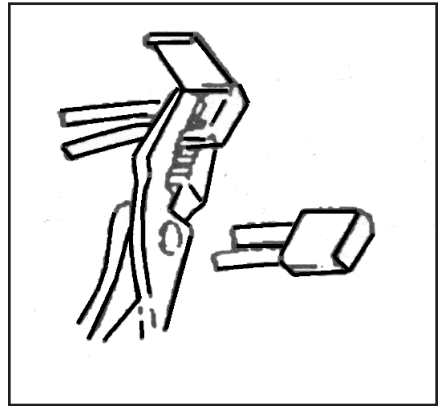

Figure 4
A. CLUTCH APPLICATION: Connect either **Violet Wire** of the **DISENGAGEMENT SWITCH HARNESS** to the **Violet Wire** in the **CRUISE CONTROL MAIN WIRING HARNESS**, as shown in **FIGURE 4**. Connect the other **Violet Wire** to the ground side of the vehicle brake switch, as shown in **FIGURE 4A**.
B. BRAKE APPLICATION: Connect either **Violet Wire** of the **DISENGAGEMENT SWITCH HARNESS** to vehicle ground. Connect the other **Violet Wire** to the **Violet Wire** in the **CRUISE CONTROL MAIN WIRING HARNESS** as shown in **FIGURE 4**
C. COMBINATION CLUTCH AND BRAKE APPLICATION: Connect either **Violet Wire** of the **DISENGAGEMENT SWITCH HARNESS** to be connected for the **CLUTCH APPLICATION** to the **Violet Wire** in the **CRUISE CONTROL MAIN WIRING HARNESS** as shown in **FIGURE 4**. Connect either **Violet Wire** of the **DISENGAGEMENT SWITCH HARNESS** to be connected for the **BRAKE APPLICATION** to vehicle ground. Connect the remaining **two (2) Violet Wires** from both **DISENGAGEMENT SWITCH HARNESSES** together as shown in **FIGURE 4**.